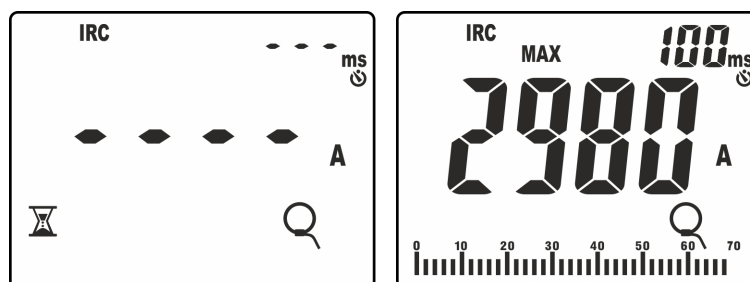

Fig. 41: Recognition of inrush current event
- Press key **GO/STOP** to activate the function. The instrument waits for the event to be recognized (measured value higher than the fixed trigger threshold equal to **1%FS clamp: e.g. 30A with FS = 3000A**) and shows symbol on the display (see Fig. 41 – left side).
9. Upon recognition of the event, **measurement stops automatically** and the instrument shows, in its main display, the **Max RMS** value calculated according to the evaluation time of **100ms** (default) indicated on the secondary display (see Fig. 41 – right side).